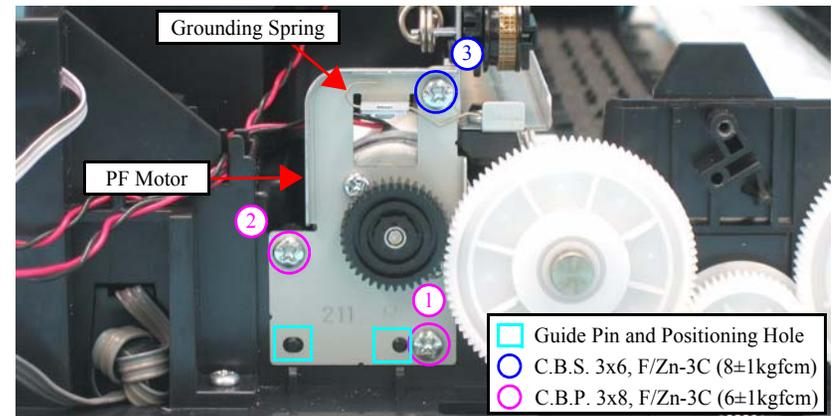
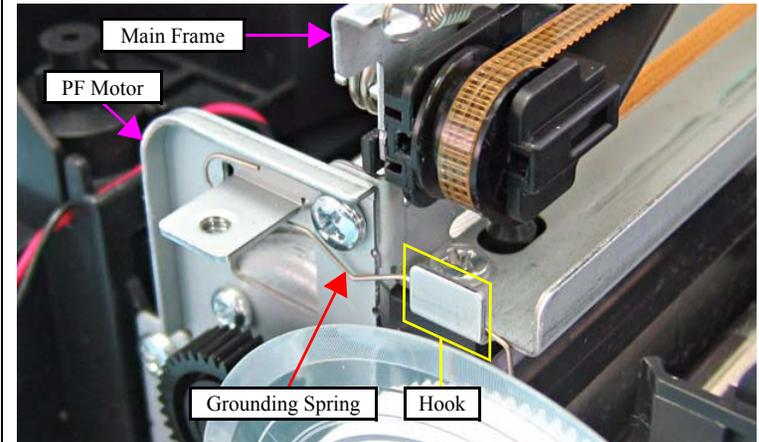

Figure 4-49. Removing PF Motor (2)
Figure 4-52. Installing Grounding Spring (2)
- Insert the guide pins (x2) on the Base Frame into the positioning holes (x2) of the PF Motor as shown in Figure 4-49.
- Tighten the screws in the order given in Figure 4-49.
- Be sure to install the Grounding Spring referring to Figure 4-49 and Figure 4-52.